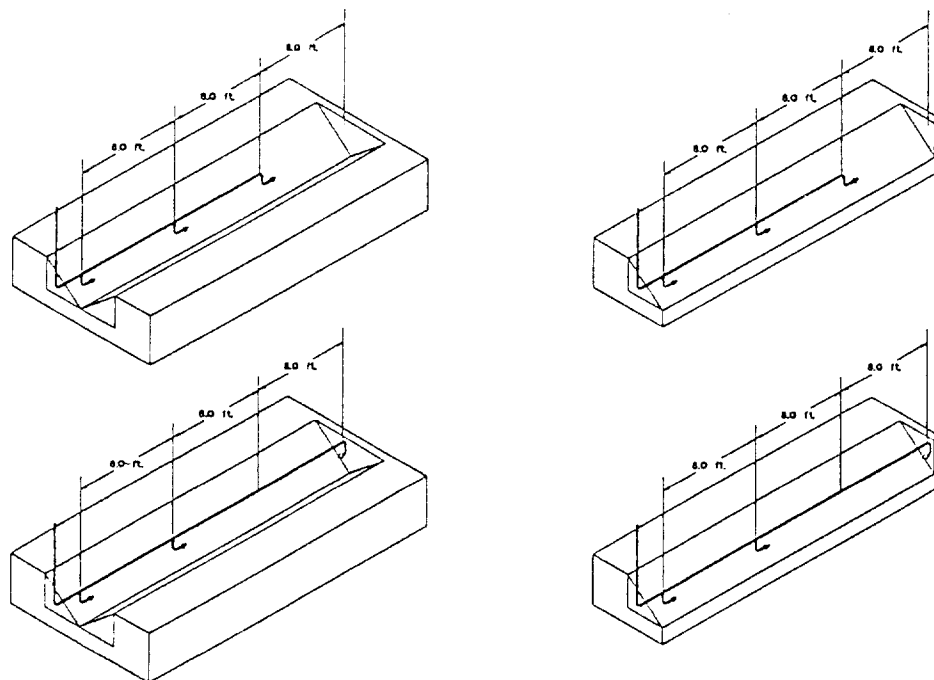

Figure 3-3. Plenum Coverage Limitations, Model NL-A Nozzle.
The Model NL-A nozzle is a one (1) flow point nozzle that has been developed to protect the plenum section of the exhaust hood. Only one (1) Model NL-A nozzle can be used on a single plenum branch. A single Model NL-A can protect a plenum (with single or V-Bank filters) with rectangular dimensions of 8' x 4' or less. Larger plenums can be protected by dividing the hazard area so that each nozzle protects an area of 8' x 4' or less (see Figure 3-3). The nozzle(s) must be located at the center of the V-Bank width or centered between the filter width when used with a single bank filter plenum. It must be within 4" of the wall it is mounted against (see Figure 3-4), or within 4" of the edge of the protected zone.